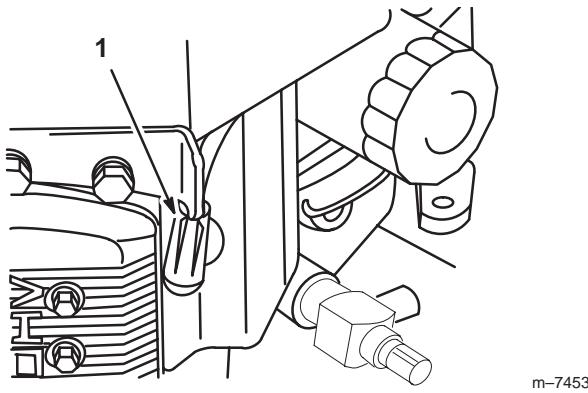

Figure 39
3. Disconnect the wires from the spark plugs (Fig. 39).
3. Connect the wires to the spark plugs (Fig. 39).